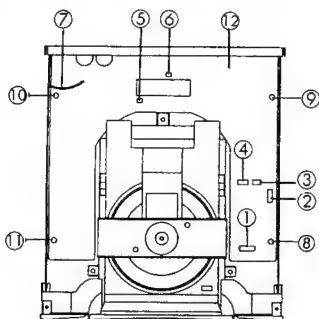

Fig. 3
1. Remove the rear panel (Refer to step ②)
2. Remove connectors ① to ⑥ in Fig. 3, and then unsolder the ground wire ⑦ which is connected the side frame (L)
3. Remove screws ⑧ to ⑪ in Fig. 3, and then remove main pcb ⑫ by pulling it to backward